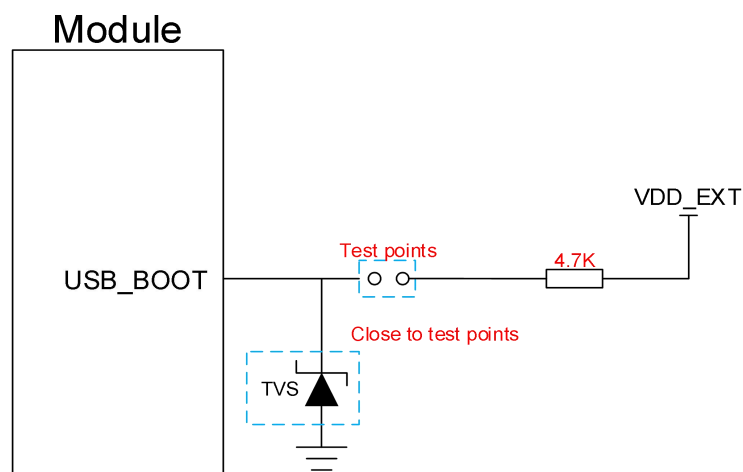

Figure 33: Reference Circuit of USB_BOOT Interface
3. If you need to manually force the module to enter download mode, directly connect the test points shown in **Figure 33**.